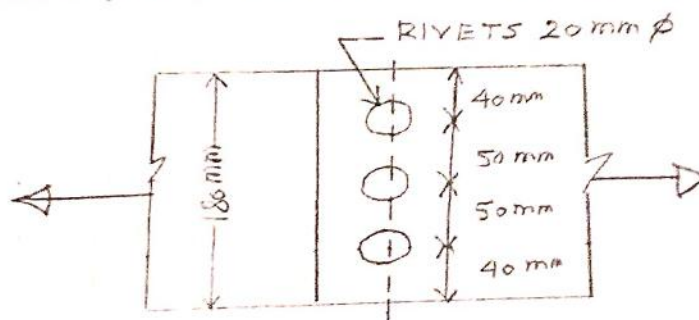

Figure: 1
- Two plates of 16 mm and 18 mm thickness have been joined by single rivet joint as shown in figure 1. Calculate the strength and efficiency of the joint. Take $\sigma_t = 150 \text{ N/mm}^2$, $\sigma_s = 90 \text{ N/mm}^2$, $\sigma_b = 270 \text{ N/mm}^2$.